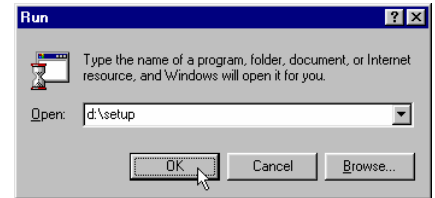

Figure 0.1 The Run Dialog box
5. The install procedure should start automatically after a few seconds. If it does not, click on the START button, and choose Run. A dialog box appears as in Figure 0.1.